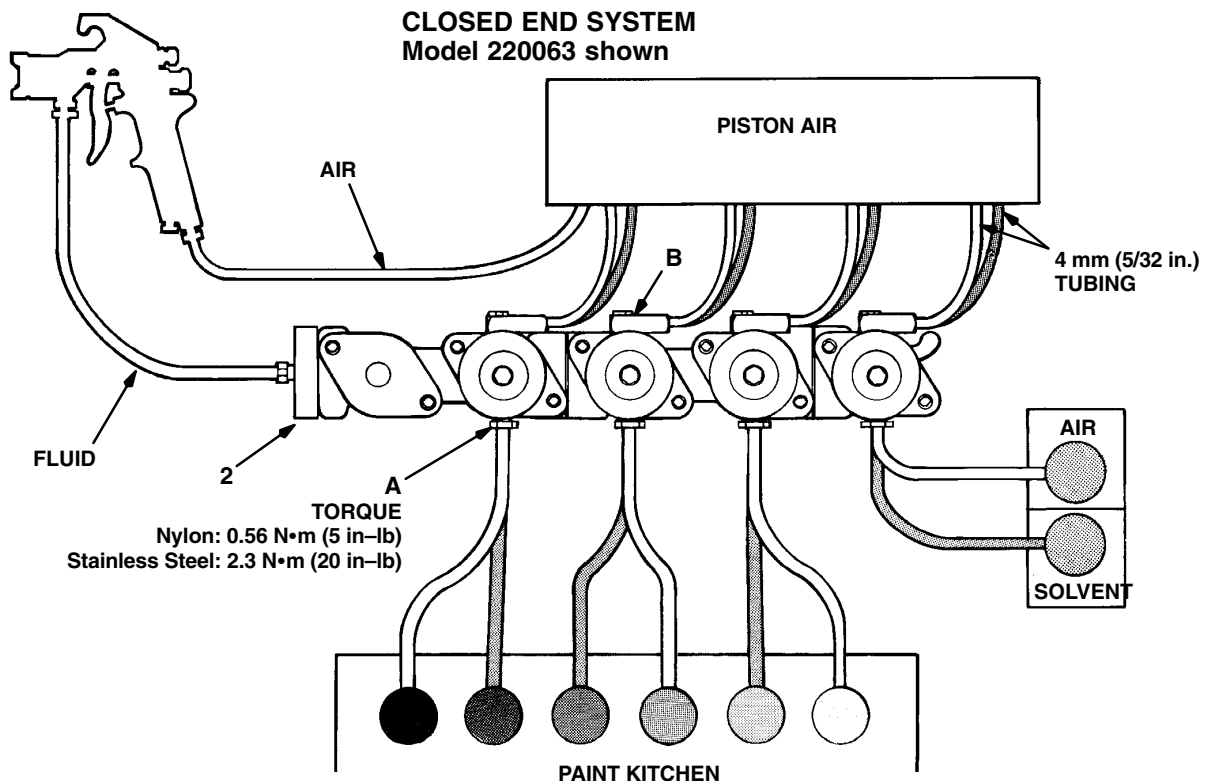
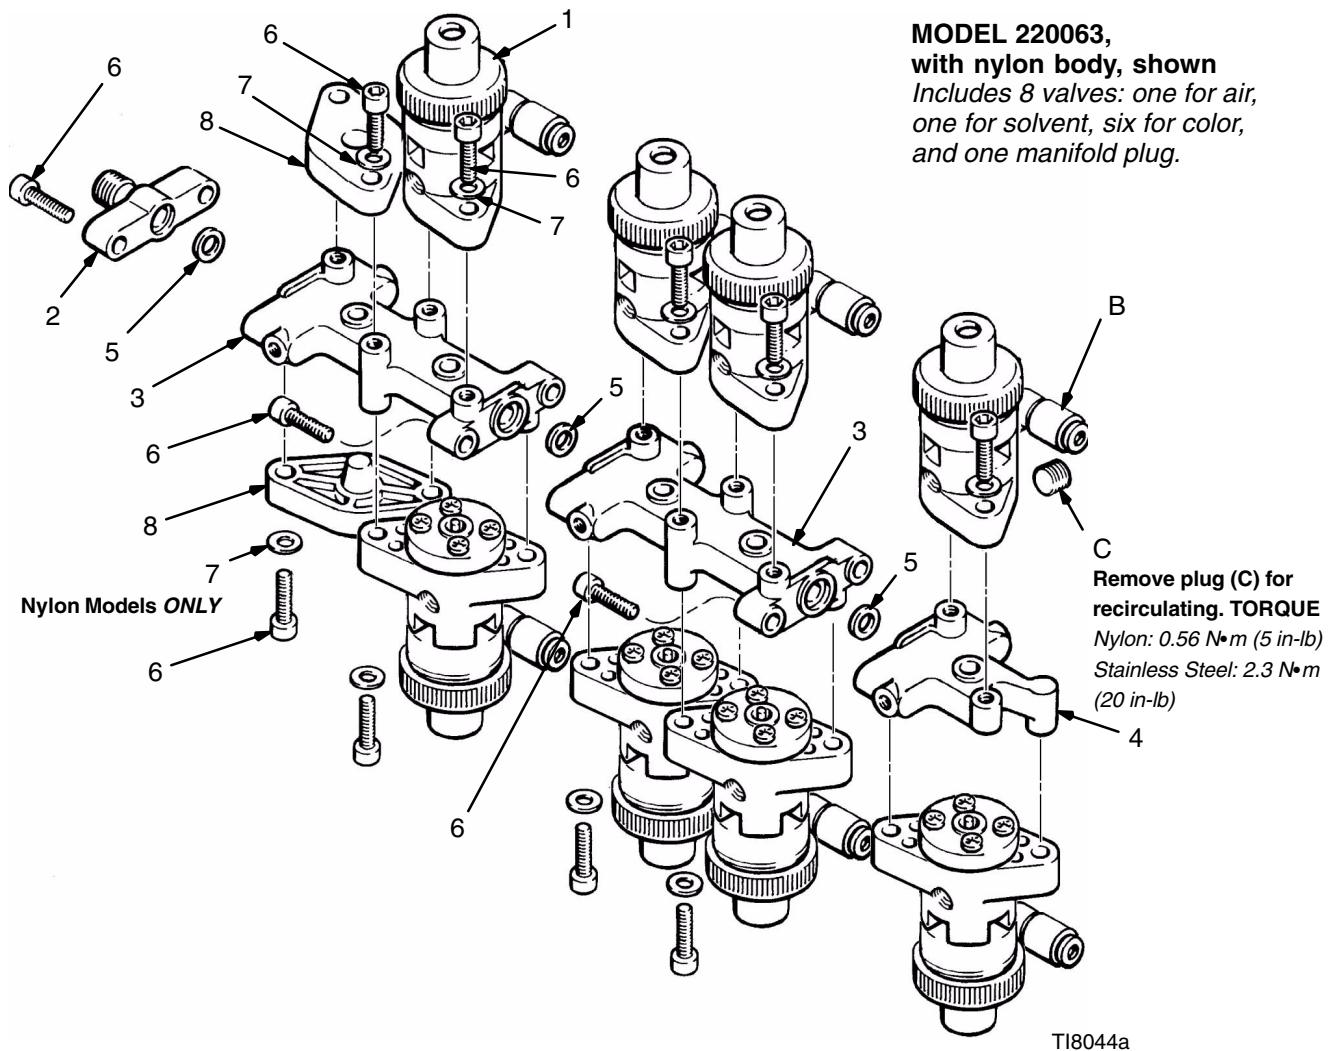

Fig. 1
Fig. 2
1. Place a gasket (5) between each of the center manifolds (3). Connect the manifold with two screws (6). See Fig. 2.
2. Place a gasket (5) on the open end of the last center manifold, and connect the end manifold (4) with two screws (6).
3. Place a gasket (5) on the front of the first center manifold, and connect the front block (2) with two screws (6).
4. Install the valves (1) on the manifolds with two washers (7—Nylon valves only) and two screws (6).
6. Connect a 4 mm (5/32 in.) O.D. tube to each piston air inlet fitting (B) by pushing the tube into the special quick disconnect of the fitting. See Fig. 1.
Connect the paint supply hose to the adapter (A). See Fig. 1.
8. Connect the paint hoses from the gun to the front block (2). The threads on the front block are 1/4-18.6 compound thread, which fits both 1/4-18 npsm or 1/4-19 BSP female connectors.
9. If you are recirculating the paint, remove the recirculating plug (C) from the valve and connect the recirculating line to the 1/8 npt(f) port, using a suitable adapter. See Fig. 2. Use sealant on the adapter and torque it as follows: